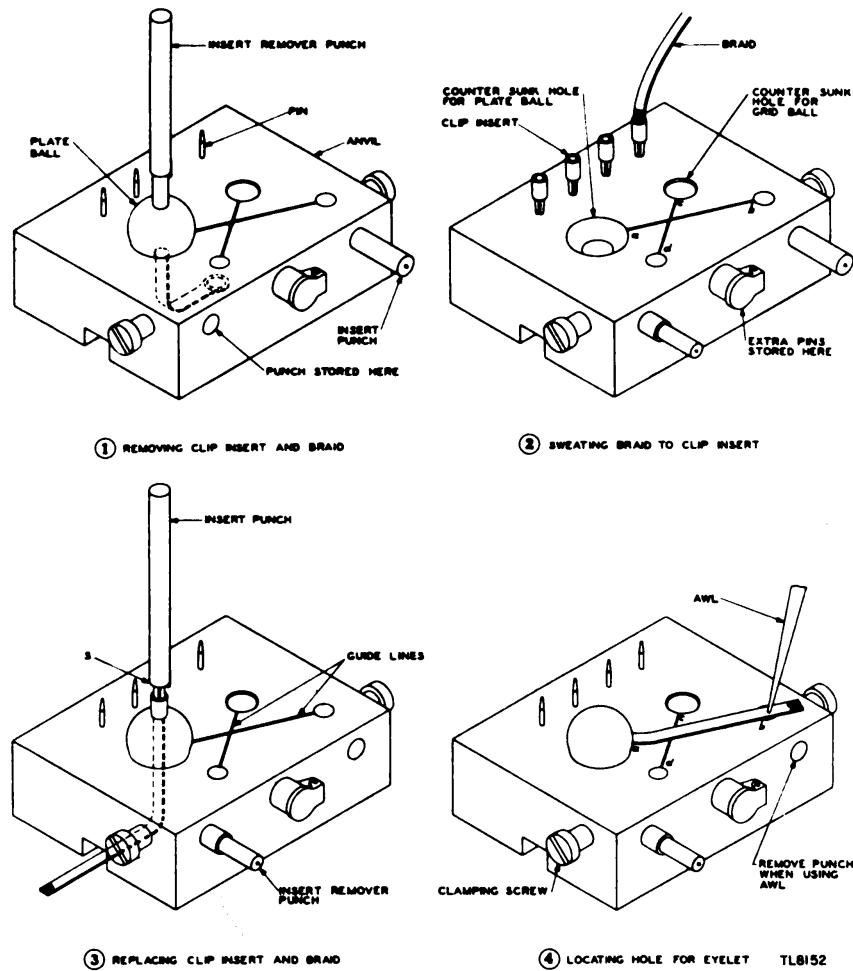

Figure 23. Punch and Anvil Set TL-196 in use.
Figure 23 shows the various steps required to remove and replace a connector braid and clip insert on a ball assembly.
(1) Run the eyelet and braid of the damaged ball assembly through the countersunk hole used for the plate or grid ball (fig. 23①). Permit the ball to rest on the leveled surface and at the same time allow the braid to run down the bottom channel of the anvil.
(2) Using the insert remover punch, drive out the insert (fig. 23②).
(3) Place (prongs down) a new clip insert of the proper size for the particular ball being repaired on one of the four pins projecting from the anvil (fig. 23②). The grid and plate balls use clip inserts of different
(4) Sweat the braid to the clip insert. It is important that no solder be on any portion of the braid other than at the connection.
(5) Remove the clip insert from the pin and pass the loose end of the braid through the hole in the ball.
(6) Now pass the loose end of the braid through the proper countersunk hole so that it enters the bottom channel of the anvil. Rest the ball on the beveled surface of the hole.
(7) Draw the braid so that the insert rests in the position indicated in figure 23③, and drive the clip insert into place with the insert punch. The insert is in the correct position when the surface S of the punch is in contact with the ball.
(8) Remove the ball from the countersunk hole and place it in the same hole so that the braid extends along the guide line a-b (if it is a plate ball) or c-d (if it is a grid ball) as shown in figure 23. This does not apply to all models of radio sets, however, as some are designed so that the grid- and plate-ball braids are of the same length. In this case, both balls should be placed in the hole for the grid ball and the braid extended along guide line c-d. Guide line a-b is not used.
(9) Stretch the braid along the line a-b (if it is a plate ball) or c-d (if it is a grid ball). With the awl make a hole in the braid at the point b or d as indicated in figure 23④, so that a No. 469 eyelet can be inserted. Crimp and solder the eyelet to the braid.
(10) File the soldered end so that a smooth surface is produced. Be sure no frayed ends or points are left on the braid or soldered ends.